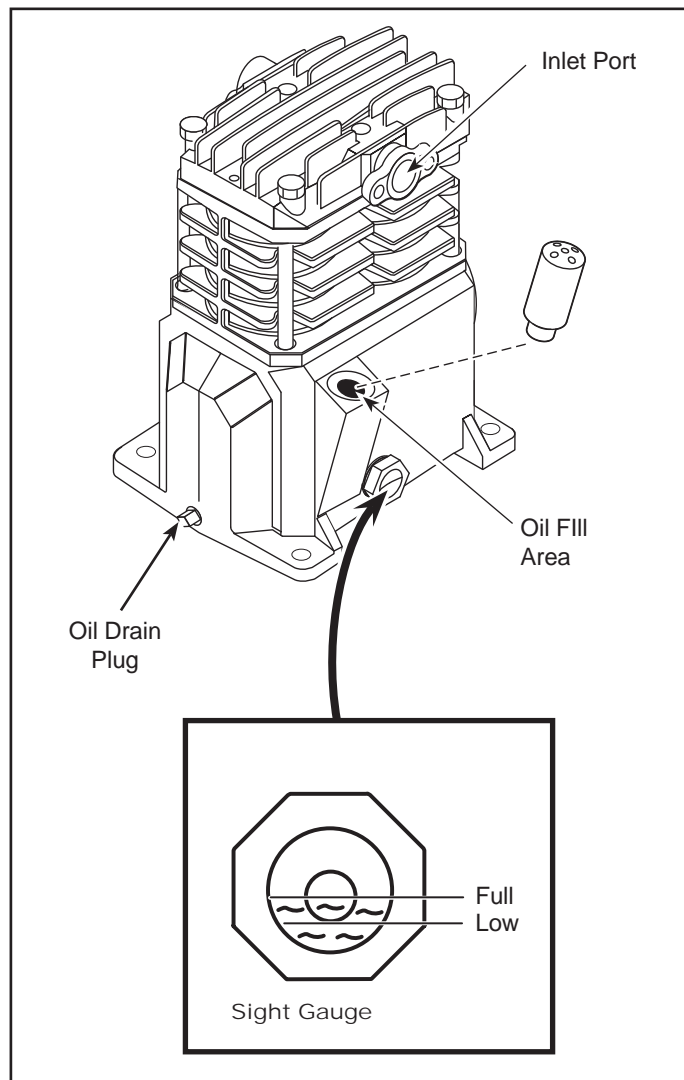

Figure 6 - Lubrication
Screw supplied air inlet filter into inlet port of cast iron pump as indicated in Figure 6.
**CAUTION** *This unit contains no oil. Before operating compressor, fill to the center of the sight gauge (see Figure 6).*
Fill the pump with oil to the center of the sight gauge using oil fill opening (see Figure 6). **Do NOT fill the pump through the breather cap opening as this may cause oil to leak and spray out during operation.**